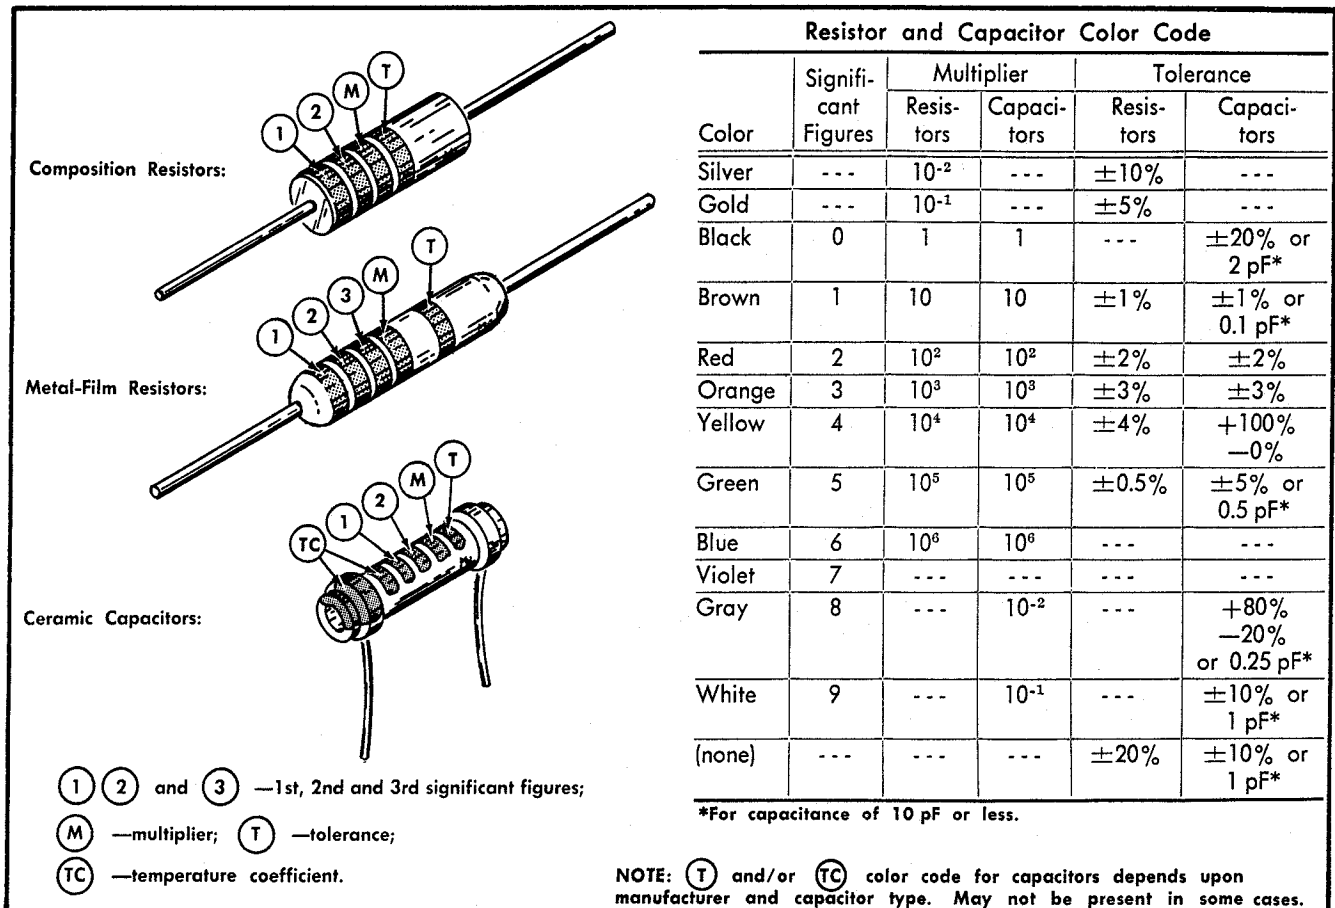

Fig. 4-1. Standard EIA color coding for resistors and capacitors.
**Resistor Color Code.** In addition to the brown composition resistors, some metal-film resistors and some wire-wound resistors are used in the Type 564B. The resistance values of wire-wound resistors are printed on the body of the component. The resistance value of composition resistors and metal-film resistors are color-coded on the components with EIA color code (some metal-film resistors may have the value printed on the body). The color code is read starting with the stripe nearest the end of the resistor. Composition resistors have four stripes which consist of two significant figures, a multiplier and a tolerance value (see Fig. 4-1). Metal-film resistors have five stripes consisting of three significant figures, a multiplier and a tolerance value.
**Capacitor Marking.** The capacitance values of common disc capacitors and small electrolytics are marked in microfarads on the side of the component body. The white ceramic capacitors used in the Type 564B are color coded in picofarads using a modified EIA color code (see Fig. 4-1).